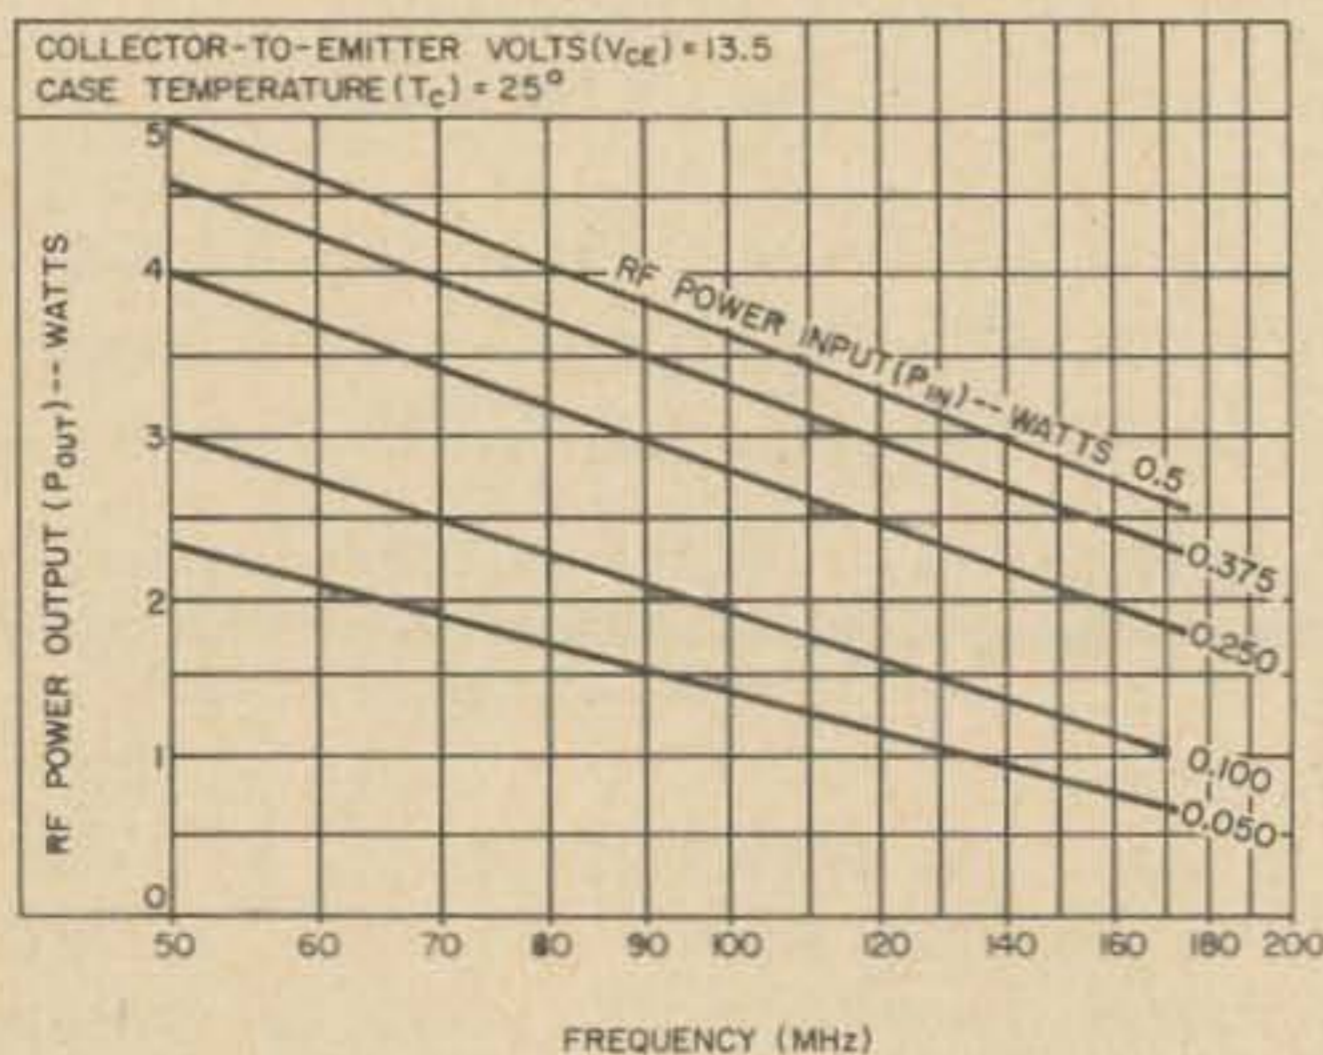
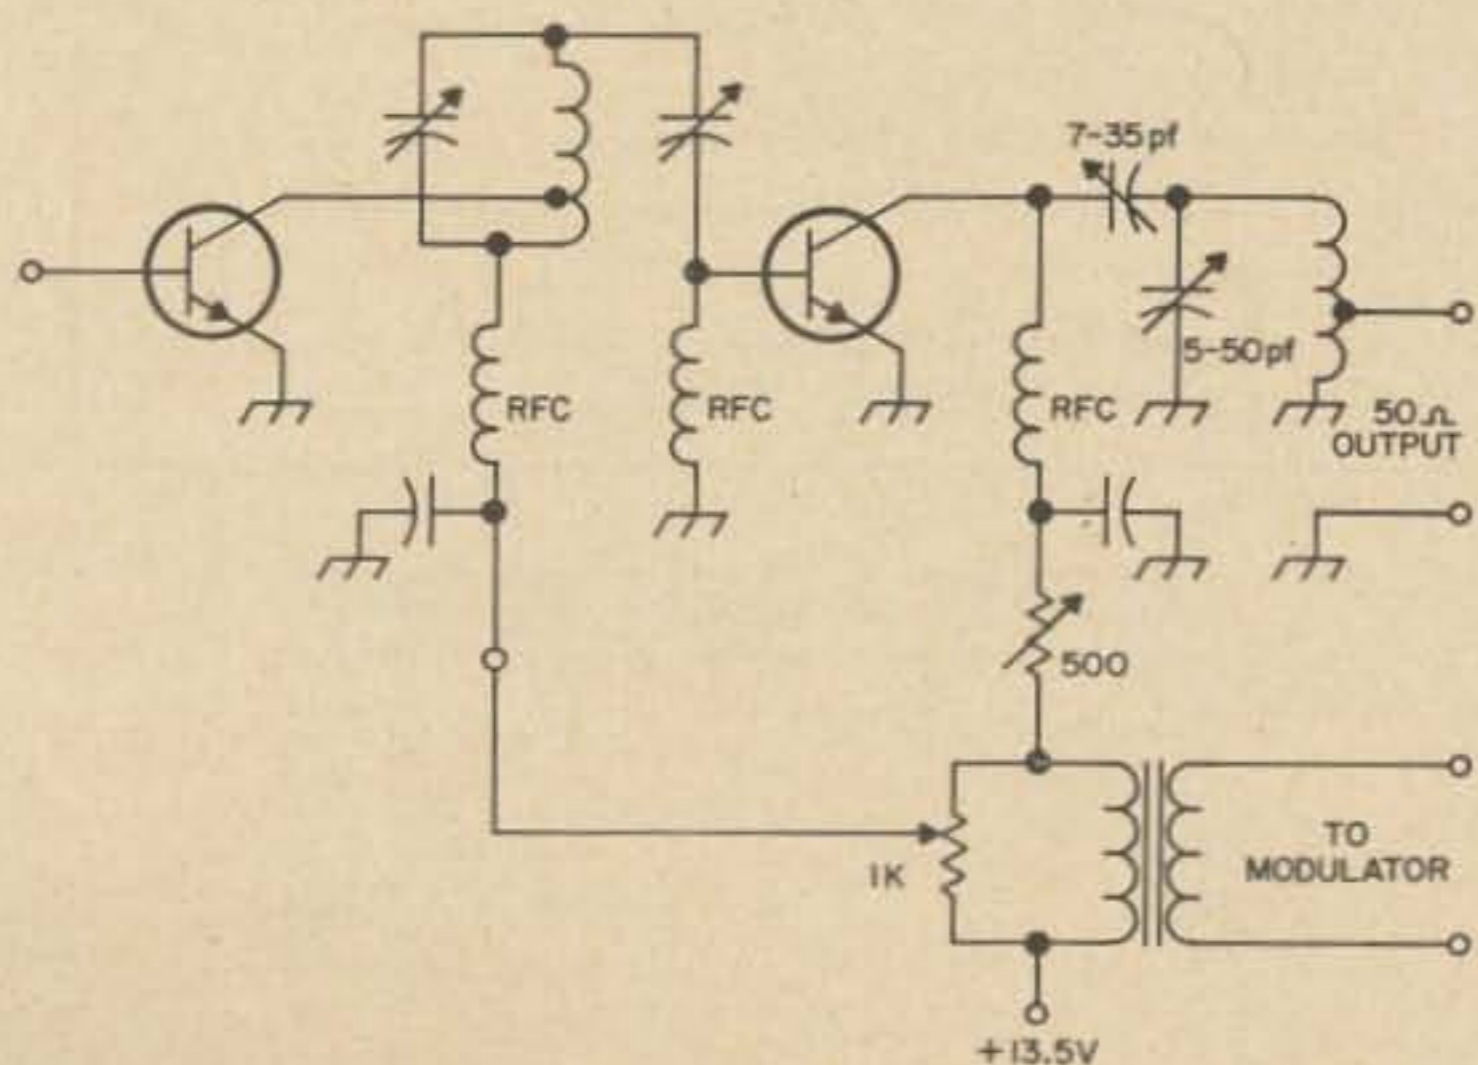

Fig. 7. Characteristic curves for the 2N3553 at 28 volt emitter to collector voltage.
Fig. 9. Complete 50 MHz power amplifier stage and part of its driver. The driver must supply 75 mW for 2.5 W output.
Let's assume we are designing a 50 MHz final using the RCA, 2N3553 transistor. Characteristic curves on the data sheet (see Figs. 7 and 8) show that this device can typically provide 5 watts (CW) from a 13.5-volt source at 50 MHz and 10 watts with a 28-volt source. Specified BV_{CES} is 65 volts which is sufficient for either CW or AM from a 13.5-volt source (use the equations and check for yourself). Therefore, let's design for a peak modulated power output of 10 watts which corresponds to a 2.5-watt unmodulated carrier.
The complete 50 MHz RF power amplifier and part of a driver stage is shown in Fig. 9. As shown, the driver stage can be designed using a similar matching network. The load for the driver will be the input impedance of the 2N3553 final transistor which, for all practical purposes, can be considered as the base spreading resistance (r_{bb}') of the transistor. For the 2N3553, r_{bb}' is typically 12 ohms. Therefore, the network must transform 12 ohms to the impedance the driver needs to see to develop the required drive power. The driver can be designed using the same procedure as given for the final. From Fig. 7, the driver must supply about 75 mW of power to the base of the 2N3553 to drive it to a 2.5 watts CW output. Since the driver should be modulated to improve down-modulation, the needed drive for peak power output of the final is provided by peak modulated power from the driver. Usually, modulating the driver between 25 and 35% is sufficient.